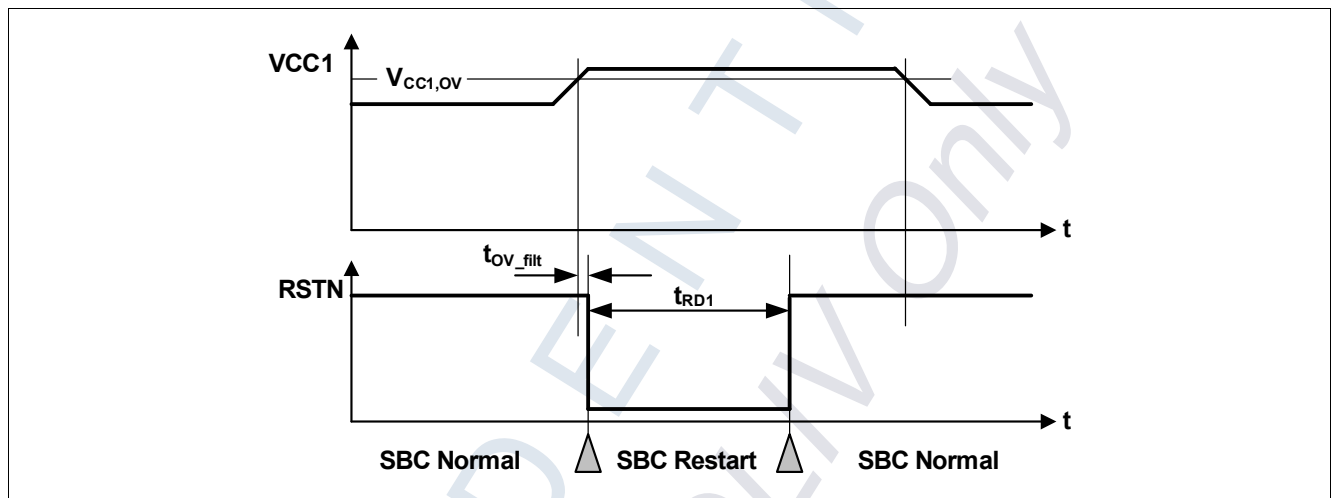

Figure 46 VCC1 Over Voltage Timing Diagram
- If the bit **VCC1_OV_RST** is set and **CFG0_STATE** = '1', then SBC Restart Mode is entered. The FO output is activated. After the reset delay time (t_{RD1}), the SBC Restart Mode is left and SBC Normal Mode is resumed even if the VCC1 over voltage event is still present (see also Figure 46). The **VCC1_OV_RST** bit is cleared automatically;